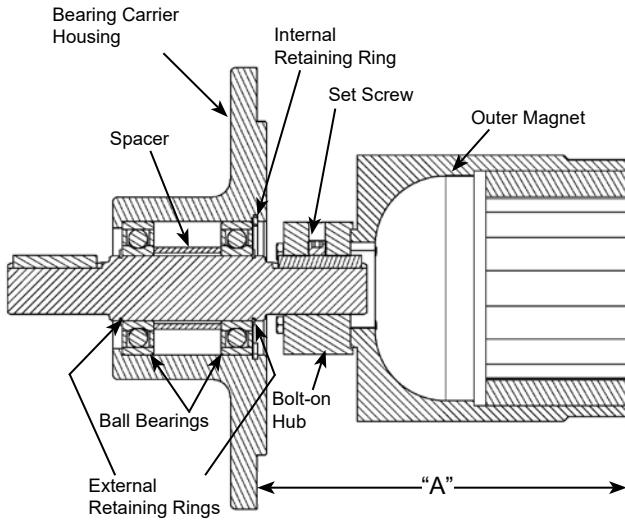

FIGURE 23
1. Place some Loctite® on the O.D. of the first bearing and press into the housing bore. Position the bearing spacer in the bore and insert the second bearing. Center the bearing spacer then press in the shaft with one external retaining ring on shaft. Press down until the ring contacts the bearing race, then install the second ring. Install the internal retaining ring into the bearing housing. See Figure 23, page 13.
2. Slide the outer magnet assembly onto the pump shaft. Locate the outer magnet per dimension “A” listed below then tighten the two setscrews. See Figure 23, page 13.